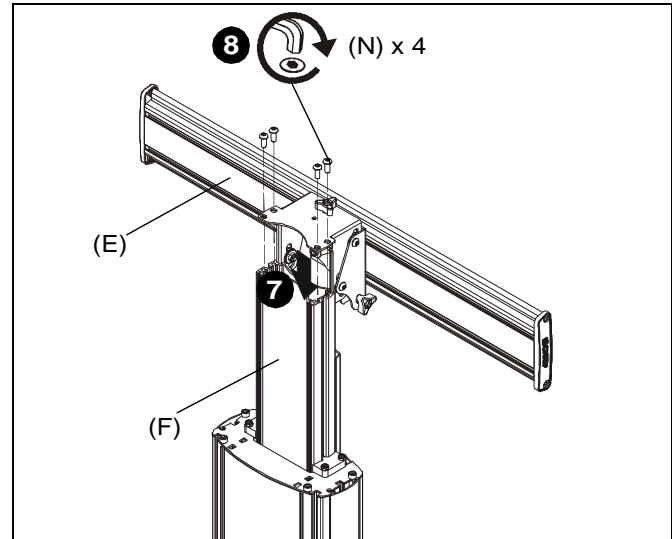

Figure 3
7. Slide interface head assembly (E) into column assembly (F). (See Figure 3)
8. Use four 5/16-18 x 3/4" button head cap screws (N) to secure interface head assembly (E) to column assembly (F). (See Figure 3)